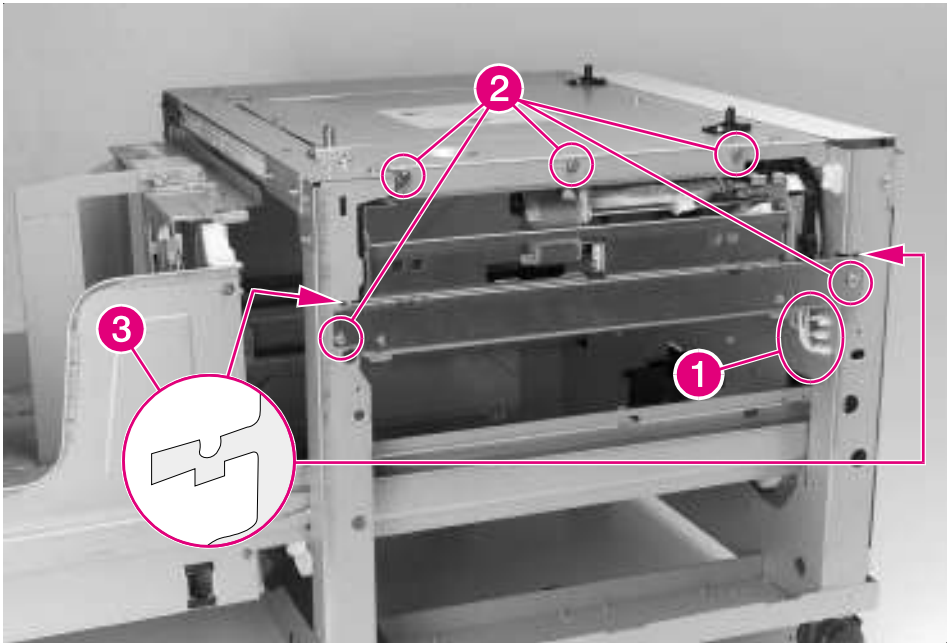

Figure 6-73 2000-sheet Input Tray Pickup Assembly
- 4 Disconnect the 3 cables that are located at the bottom-right side of the Pickup Assembly (figure 6-73, callout 1).